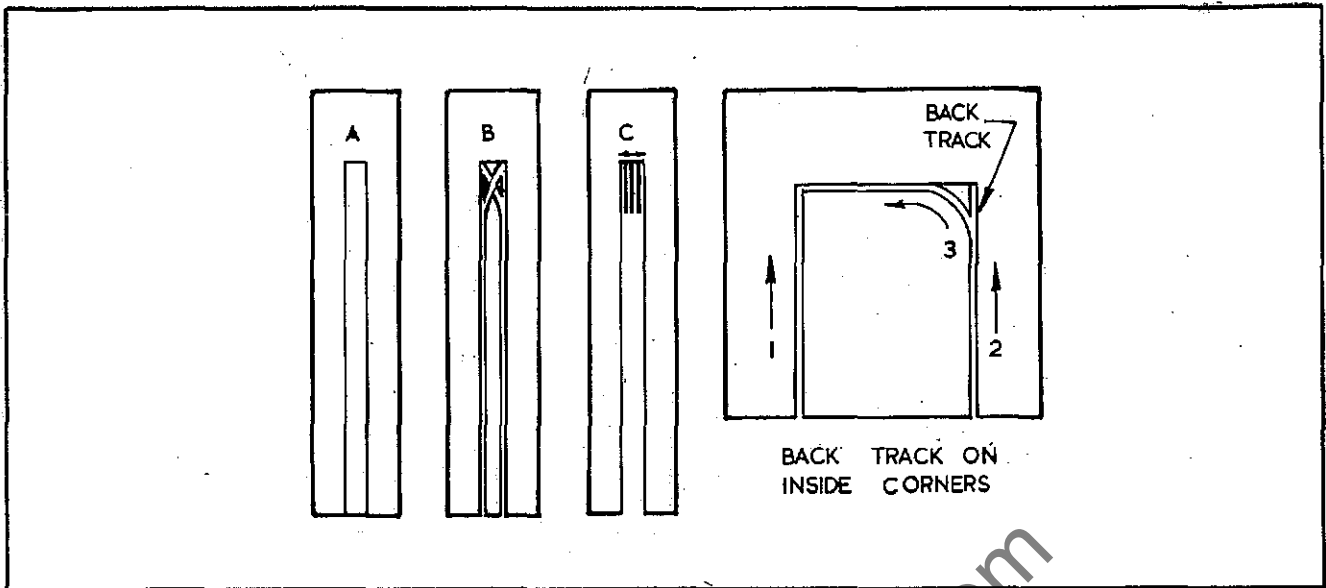

FIG 36
3. Backtrack on Corners. SEE FIG.36.